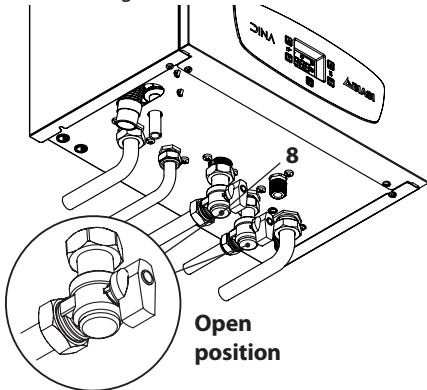

Figure 6.1
- Open the cock for the gas meter and for the boiler 8 in Figure 6.1.